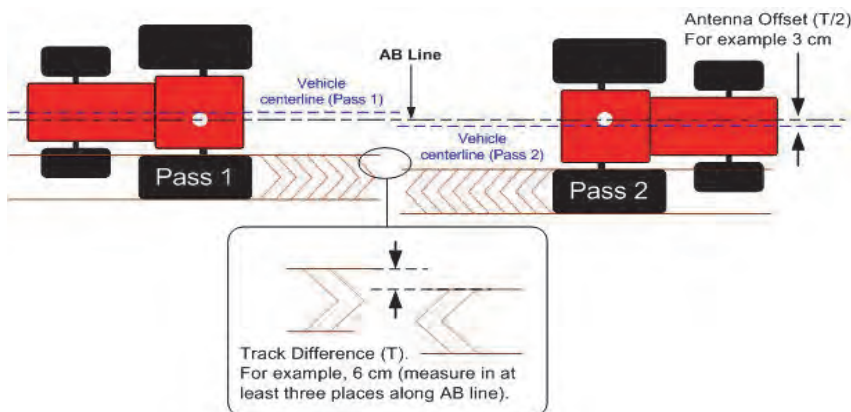

Figure 2-36: Determining the antenna offset. Example $6/2 = 3$ cm Left
4. In three different places along the AB line, measure the distance between the corresponding track marks (inside edges, outside edges or centers, whichever are easiest to see and measure, see Figure 2-36). If there is variation, calculate the average difference. In our example (Figure 2-36) the track difference is 6 cm, measured at the outside edges of the track marks at one point on the AB line.